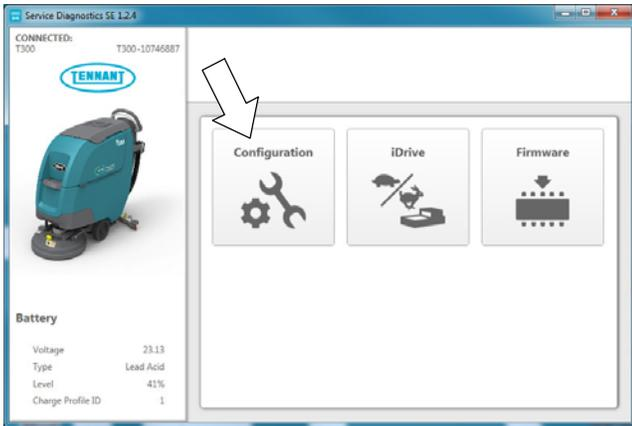

Fig. 36
- From the Home screen, press the Configuration button (Figure 36).